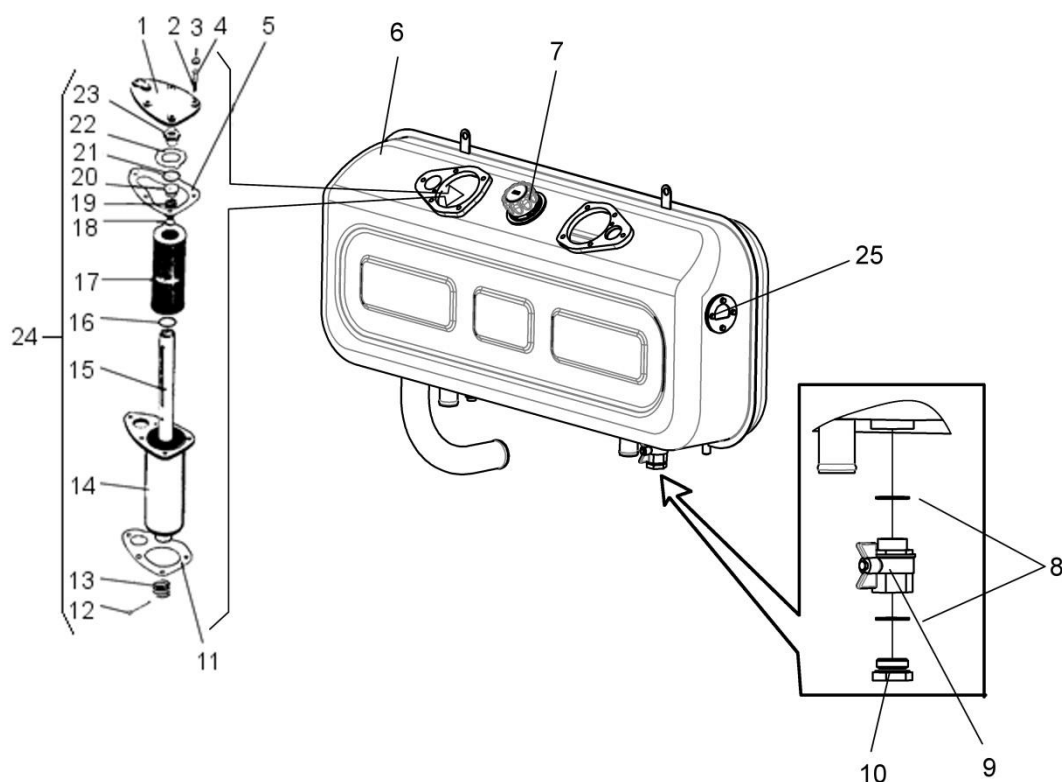

Fig.46 Hydraulic tank
Check oil level in the hydraulic tank via the sight hole 25 (Fig.46); oil should be visible through the sight hole. Fill clean oil through the grill of filler port 7. When checking oil level in the hydraulic tank, make sure of the absence of foam generation.
- a) Undo fastening nuts 3 (see Fig. 46) and take off cover 1.
1. Refill oil into the hydraulic tank through the oil filler port; in doing so, oil level shall reach the middle of housing of filter 11 (Fig.46).